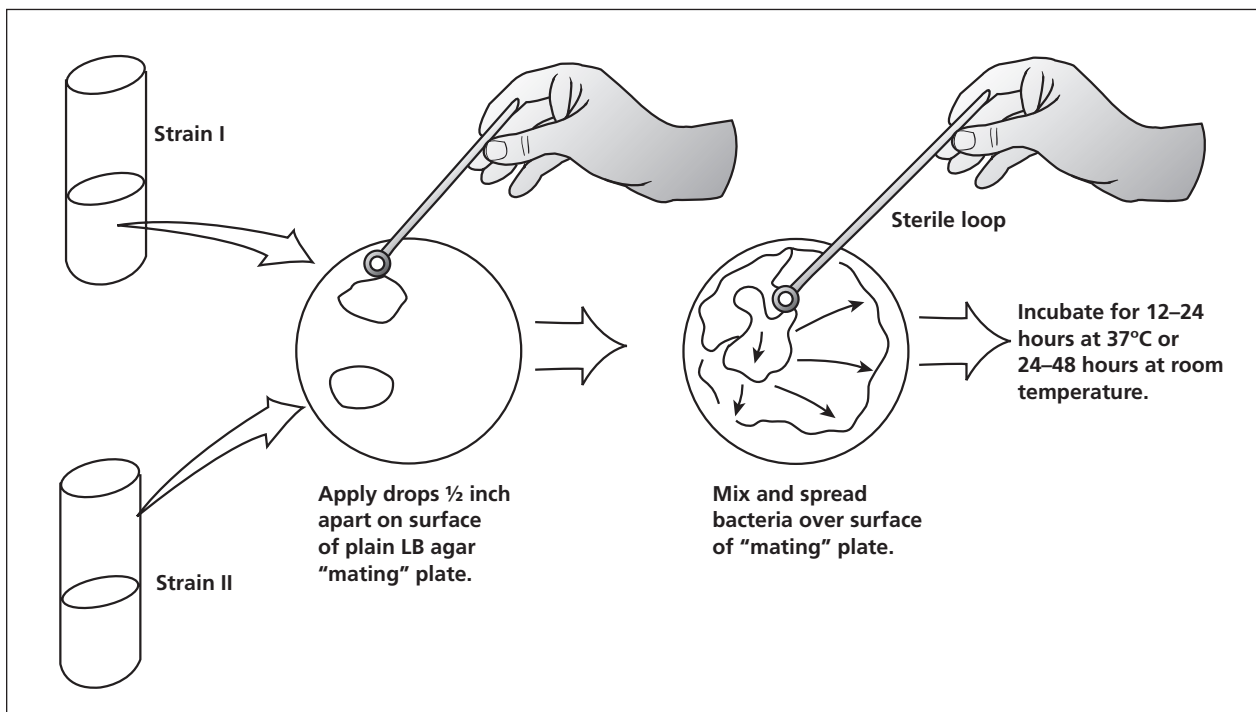

Figure 3. Cells of strains I and II are mixed and spread on an LB agar plate to allow for conjugation and the subsequent formation of recombinant cells.
3. Using the directions below, prepare an LB agar "mating" plate as shown in Figure 3. Remember that this plate is used to bring the cells of strains I and II into close proximity so that conjugation (mating) and the transfer of DNA between cells can occur. Label the mating plate to identify it as belonging to your group.
- d. Use a new sterile loop to mix strains I and II as shown in Figure 3.